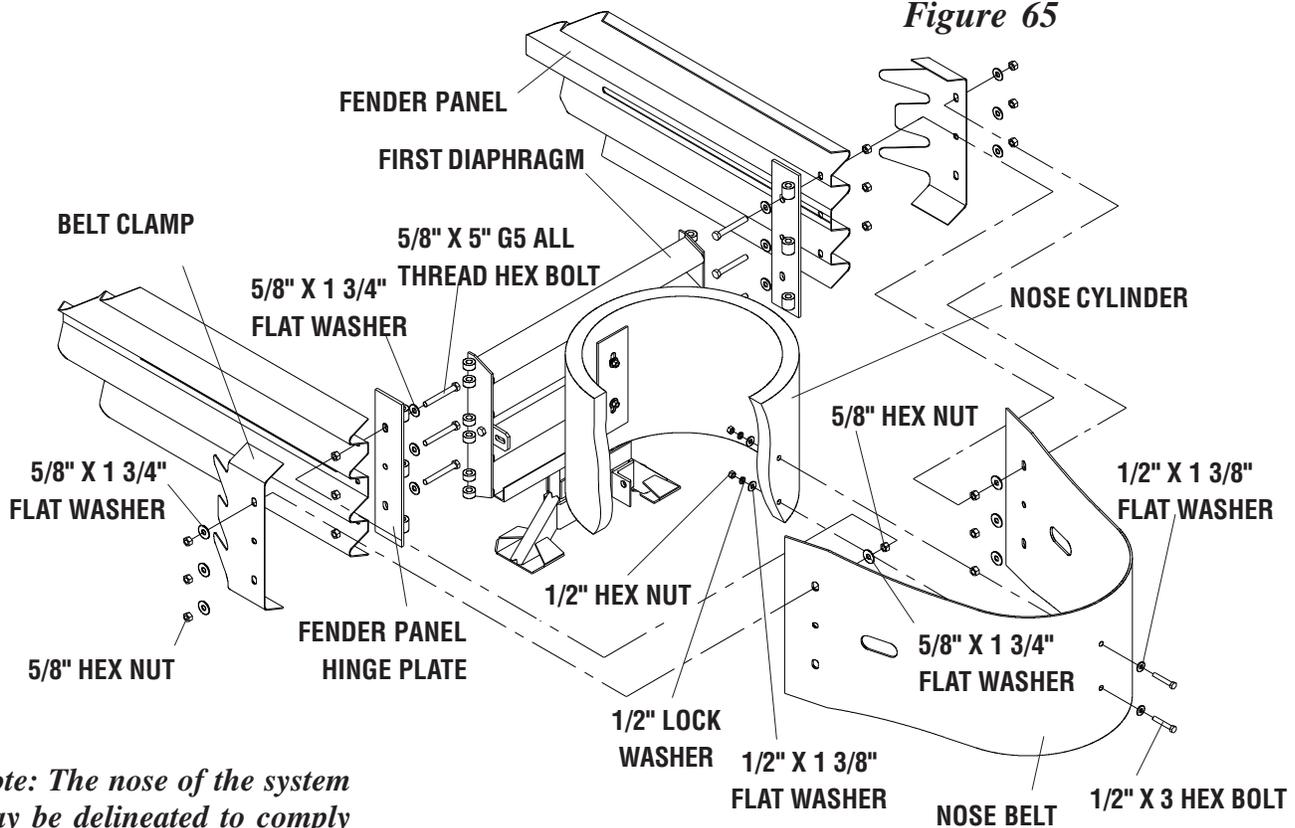

Figure 66
- Thread second 5/8" nuts onto the installed bolts. Be sure the face of the nuts are flush with humps on fender panels (see Figure 66). Slide second 5/8" x 1 3/4" flat washers onto bolts (three places per side).